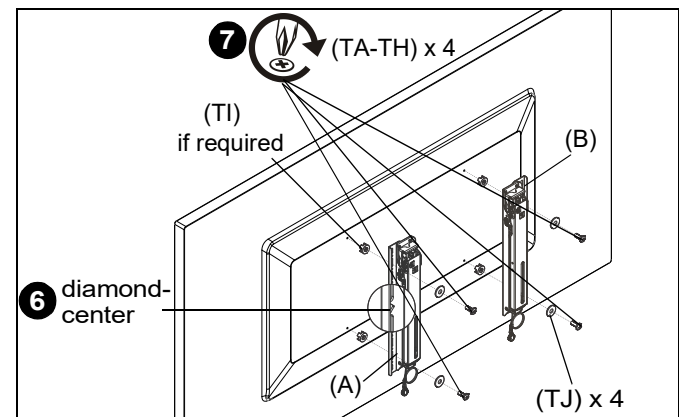

Figure 21
3. Select screw *diameter* by examining hardware (TA-TC and PD-PH) (6mm or 8mm) and comparing with mounting holes on display. (See Figure 21)
5. Select screw *length*: (See Figure 21)
- By hand, insert **SHORTEST** length screw of selected diameter (TA-TH) through 3/16" washer (TJ) (M6 screws ONLY), bracket (A or B), nesting spacer (TI, if required), into display mounting hole. Do NOT thread screw into hole at this time.
6. Make sure diamond on interface brackets is even with center of display. (See Figure 21)
7. Use selected screws (TA-TH), washers (TJ) and spacers (TI), if necessary, to connect interface brackets (A and B) to back of display. (See Figure 21)